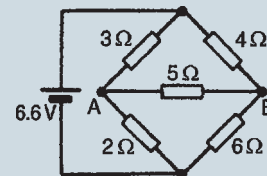

Figure 15.52
- For the bridge network shown in Fig. 15.52, find the current in the 5Ω resistor, and its direction, by using Thévenin's theorem.